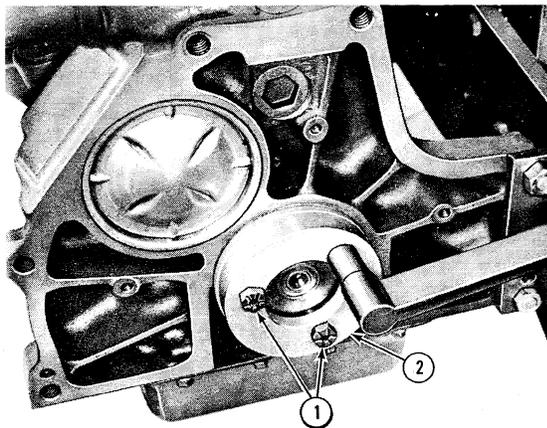

Figure 47
10. **REAR OIL SEAL:** Apply a light coating of high temperature grease to the rear oil seal bore, seal and journal, and install the seal with tool No. SW520, Figure 47. If the tool is not available, use a 4.875 in. (124 mm) internal diameter sleeve and carefully press the seal into the block until the rear face of the seal is approximately 0.06 in. (1.5 mm) inside the rear face of the block. With a dial indicator mounted on the end of the crankshaft, check the run out of the seal which should not exceed 0.015 in. (0.38 mm).